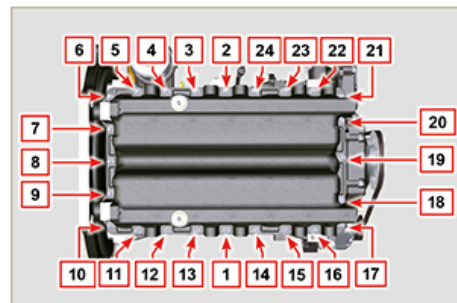

Fig. 11.59
9. Fasten oil sump **F** by tightening cap screws **E** and strictly following the order shown in **Fig. 11.59** (tightening torque at **20 Nm**).
11. Fasten oil sump **F** by tightening cap screws **E** and strictly following the order shown in **Fig. 11.59** (tightening torque at **47 Nm**).